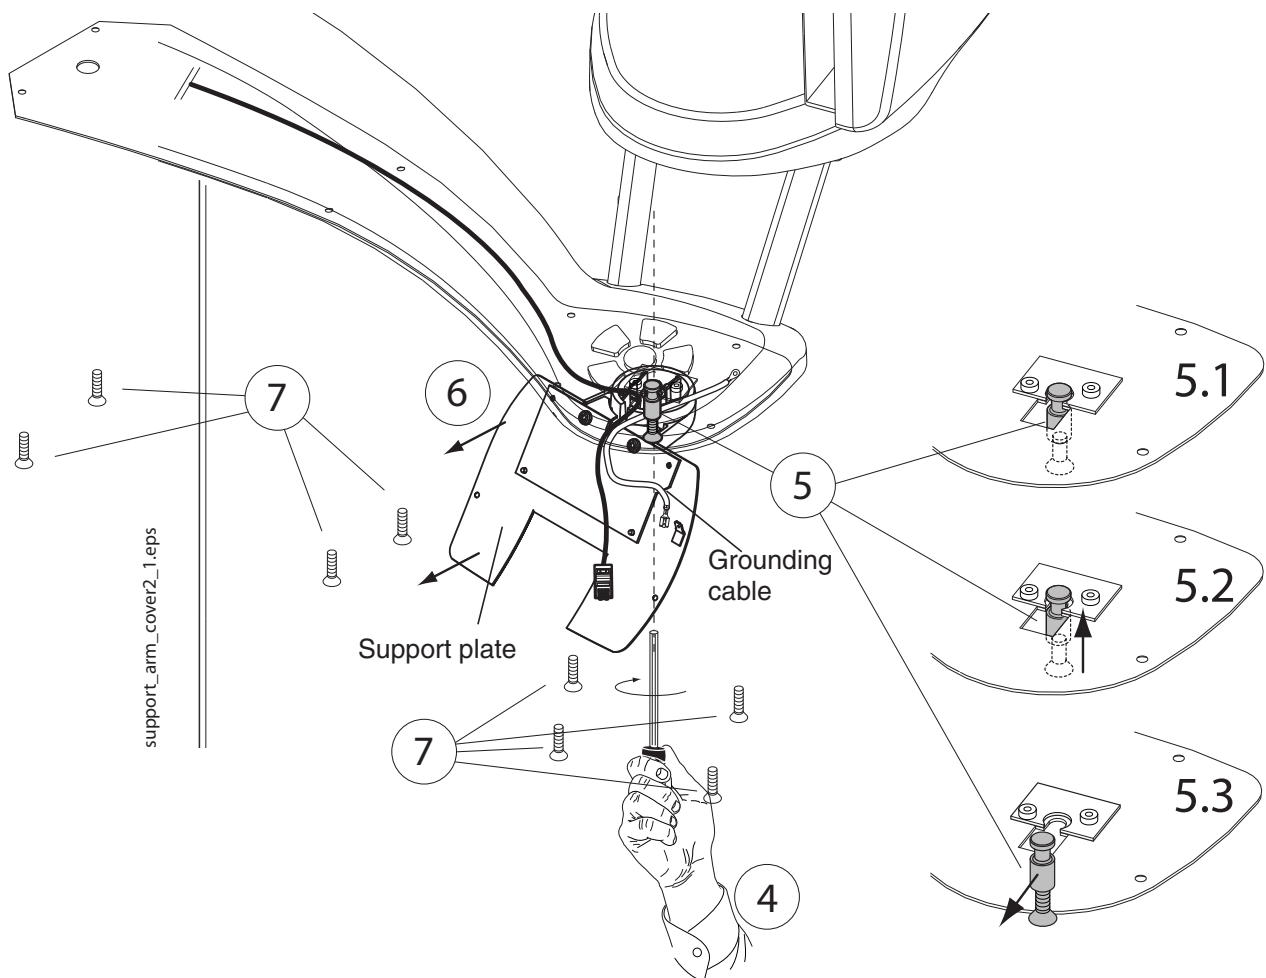

Figure 12
- 4) Unscrew the attachment screw of the user interface joint with the 4mm Allen key (Fig. 12, 4).
- 5) Press the joint with an Allen key upwards to release it from the locking plate opening (Fig. 12, 5.1-5.3).
- 7) Pull the user interface support from the arm lower cover (Fig. 12, 6).
- 8) Unscrew the attachment screws of the support arm lower cover with the 2.5mm Allen key and remove the cover (Fig. 12, 7).